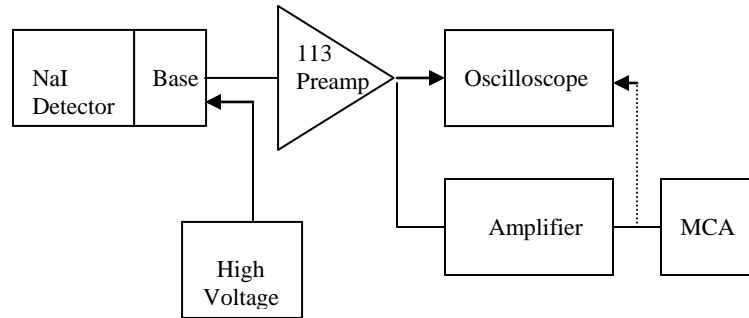

Figure 2: NaI(Tl) Detector Electronics
11. Patch the preamplifier signal through to the amplifier (see Fig. 2). Observe and record the amplitude of the amplified signal on the oscilloscope by dropping the voltage to +700 V and raising it to +1000 V. Change the bias voltage of the NaI detector back to +800 V. Why is there a difference in the amplitudes?
12. Measure the γ energy spectrum and the energy resolution of the NaI detector using the pre-amplifier, amplifier and MCA (see circuit diagram in Fig. 2). Record the settings of the amplifier and then record the spectrum on the diskette.